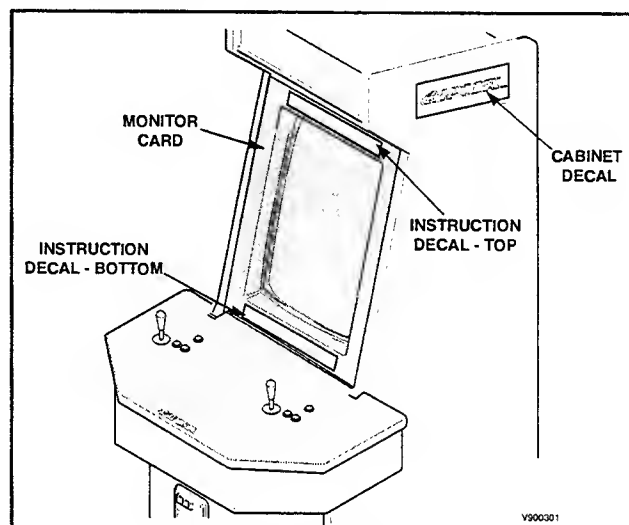

FIGURE 5
20. Peel-off the backing to the instruction decals and place on both the top and the bottom sides of the monitor card. (See Figure 5). Also, apply the cabinet decals to both sides of the cabinet.